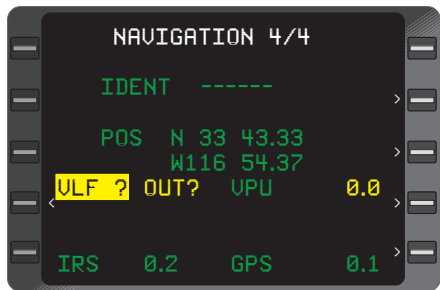

Figure 3-193
- 3. **BACK** Key - DEPRESS. **OUT?** will appear to inform the pilot of the pending change. (Figure 3-193)